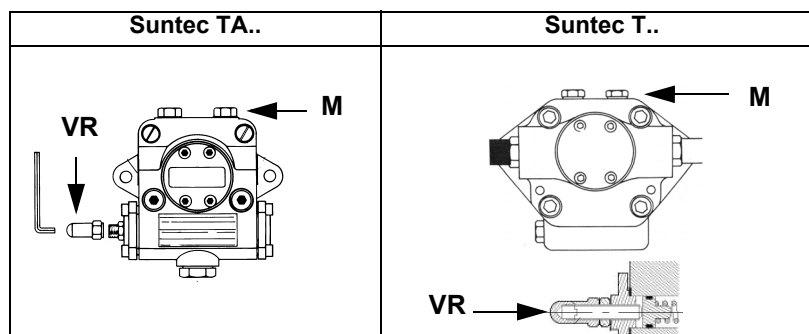
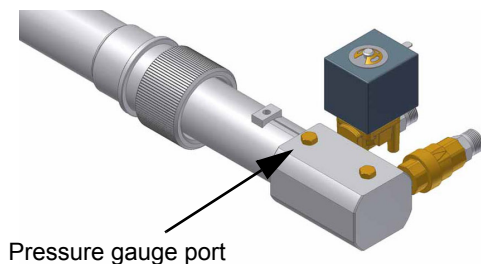

Fig. 13
Fig. 14
- 3 bleed the air from the **M** pressure gauge port (Fig. 13) by loosening the cap without removing it, then release the contactor.
- 10 the nozzle supply pressure is already factory-set and must not be changed. Only if necessary, adjust the supply pressure as follows (see related paragraph); insert a pressure gauge into the port showed on Fig. 14 and act on on the pump adjusting screw **VR** (see Fig. 13) as to get the nozzle pressure at 20bar or 25bar (according to the nozzle model: Bergonzo or Fluidics nozzle - see page 24).